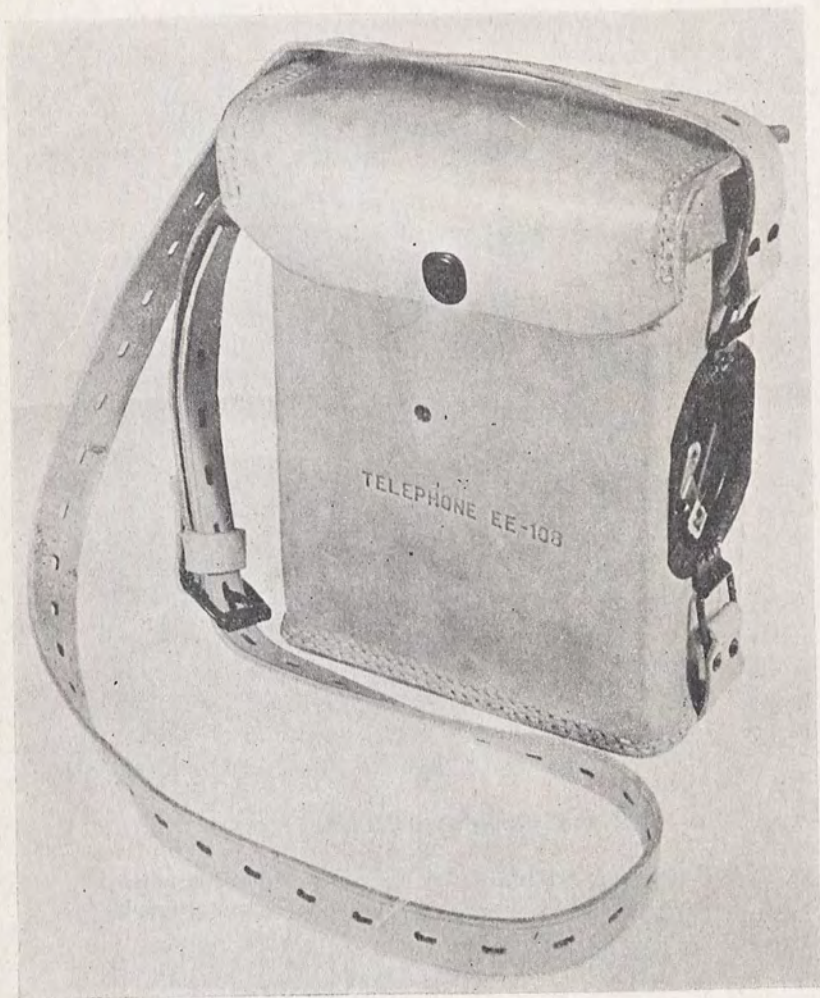

FIGURE 1. TELEPHONE EE-108
3. **Description.**—Telephone EE-108 (see Fig. 1) is contained in a leather case 9-9/16" x 7-11/16" x 3-1/2" with an adjustable carrying strap and weighs about 9½ pounds. The principal parts and those which possibly may require replacement are listed in Sect. IV, Par. 12, and the detailed description and functioning of important parts are given in Section III.
a. Case.—All elements of the telephone, except the handset, are mounted on a metal chassis which is fastened to the case by seven screws, several of which are visible in Fig. 1. This assembly of the chassis and the elements mounted on it is called the body. The cover is hinged at the back, overlaps the sides and front, and is fastened on the front with a